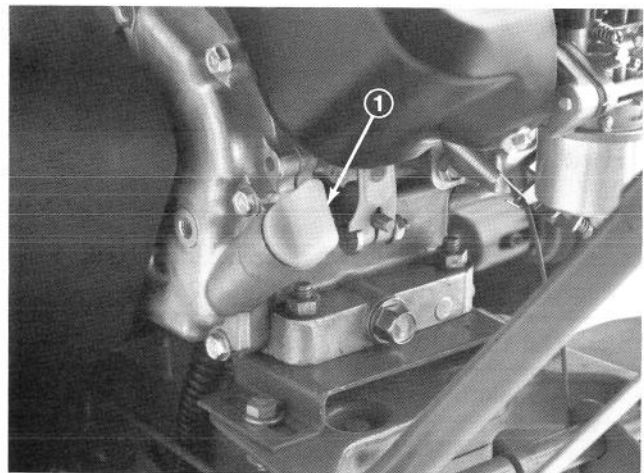

Figure 3
1. Position mower so the engine is level and clean around oil level gauge (Fig. 3).